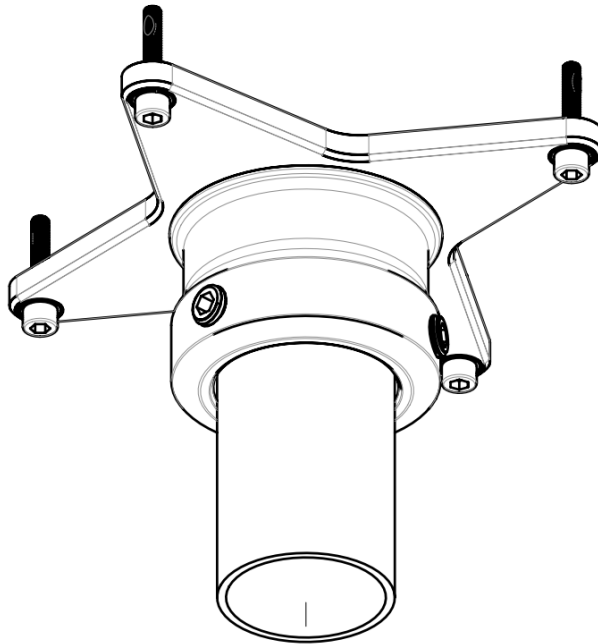
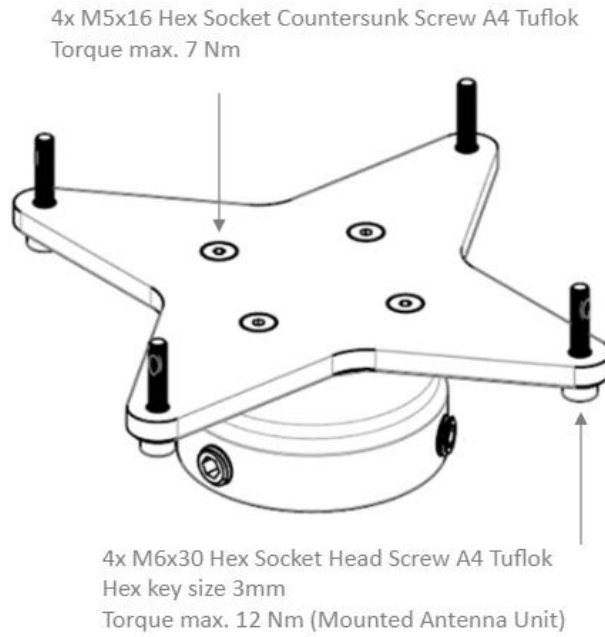
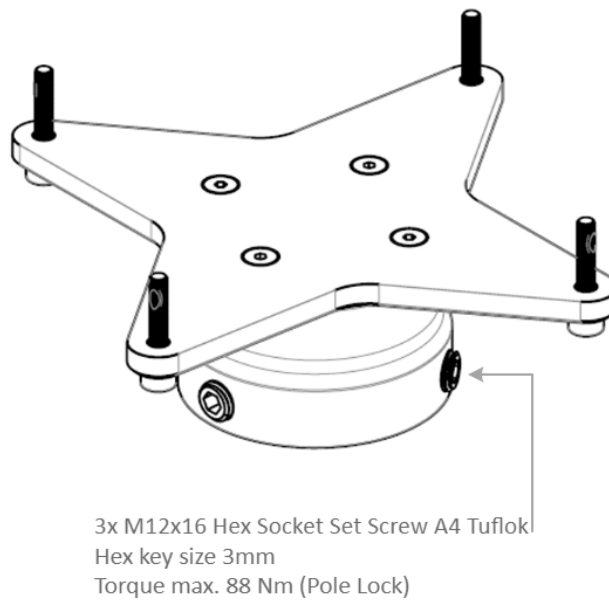

Figure 19: Pole Mount (2.0" pipe), Antenna Unit.
Figure 20: Pole Mount (2.0" pipe), Antenna Unit.
Figure 21: Pole Mount (2.0" pipe), Antenna Unit.
The Pole Mount (2.0" pipe, Ø53.0mm), Antenna Unit is illustrated in Figure 19 to Figure 20.
1. Screw the pole mount onto the LT-4230 Antenna Unit using the Head screws (max torque = 12 Nm) as illustrated on Figure 20
2. The LT-4230 Antenna Unit and pole mount can now be mounted on the 2.0" pipe. Fasten the three pole lock pinot screws, as illustrated in Figure 21 (max torque = 88 Nm)
NOTE: The Pole Mount (2.0" pipe, 53.0mm), Antenna Unit only supports a 2.0" pipe. The pinot screws (antenna and pole lock) torques are specified in Figure 21 and Figure 20. The pole mount is made of A4 stainless steel. The pinot screws are made of A4 stainless steel.